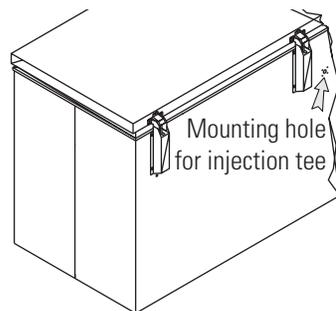

Figure 11. Mounting Hole
1. Locate the mounting hole for installing the injection tee assembly. See Figure 11. Using a long blade screwdriver or similar instrument, punch a guide hole through the foam insulation to back exterior wall opening.